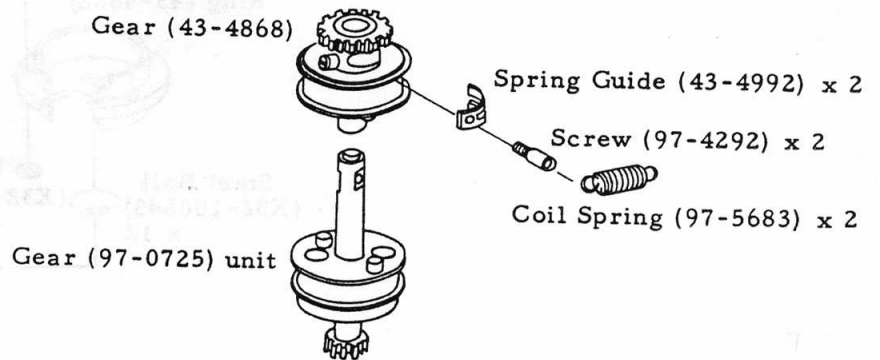

Fig. 3
- 1) Install the parts as shown in Fig. 3.